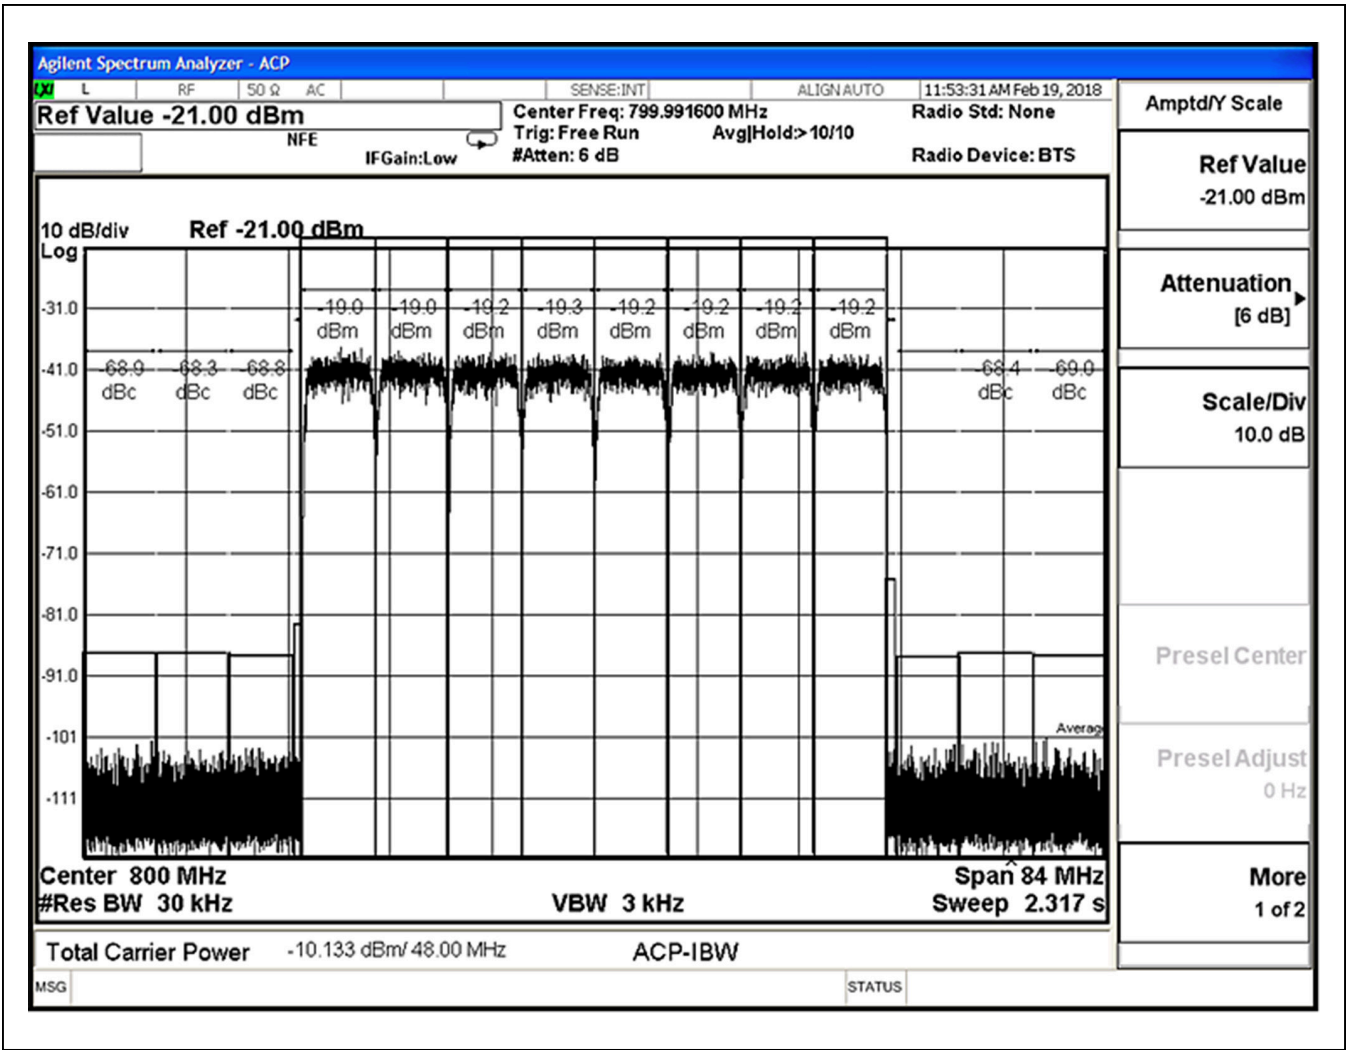

Figure 8. Spectral Output – 8 SCQAM at 800MHz
- iv. Confirm that the spectrum displayed on the analyzer matches the screenshot example (Figure 8)